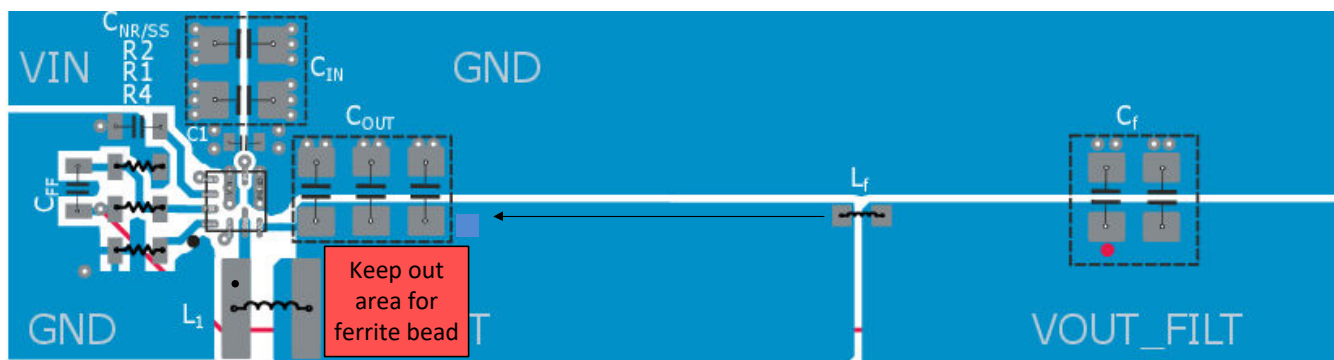

Figure 10-2. Recommended Layout for Design with Second L-C Filter
- Avoid placing the ferrite bead in the keep out region as shown in Figure 10-2
- The recommended layout is implemented on the EVM and shown in its User's Guide, TPS6291xEVM-077 User's Guide, as well as in Figure 10-2.